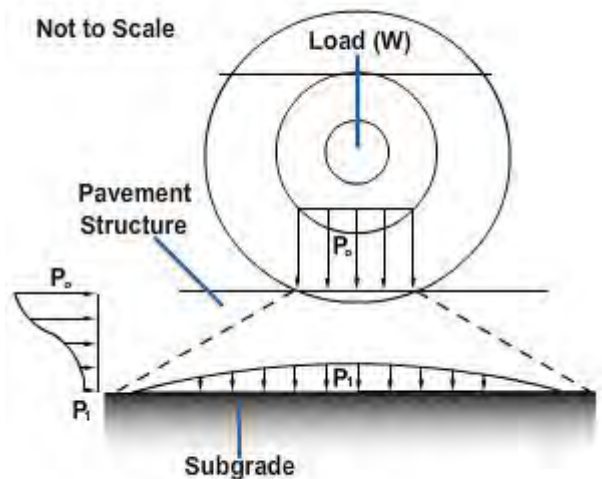

Figure 23-2 – Spread of wheel load through the pavement structure.
The foundation carries the traffic loads. Therefore, the structural function of pavement is to support a wheel load (W) on the pavement surface and to transfer and spread that load to the foundation without overloading either the strength of the subgrade or the internal strength of the pavement itself. The W value transmitted to the pavement surface through the tire has an approximately uniform vertical pressure (*Figure 23-2*). The pavement then spreads the wheel load to the foundation. By proper selection of materials, and with adequate pavement thickness, wear and durability of the paved surface will be increased.